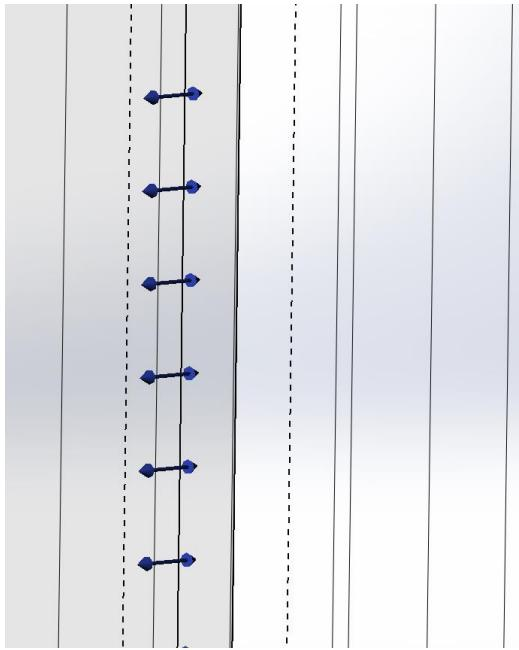

Figure 2.18b) Outlet static pressure boundary condition
18. Red arrows pointing in the flow direction appears indicating the inlet velocity boundary condition, see figure 2.17d). Right click in the graphics window and select **Zoom to Fit**. Right click again in the graphics window and select **Rotate View** once again to rotate the part so that the inner right surface is visible in the graphics window. Right click and click on **Select**. Right click on **Boundary Conditions** in the **Flow Simulation analysis tree** and select **Insert Boundary Condition....**. Right click on the outflow boundary surface and select **Select Other**. Select the Face corresponding to the outflow boundary.. Click on the **Pressure Openings** button in the **Type** portion of the **Boundary Condition** window and select **Static Pressure**. Click **OK** to exit the window. If you zoom in on the outlet boundary you will see blue arrows indicating the static pressure boundary condition, see figure 2.18b).